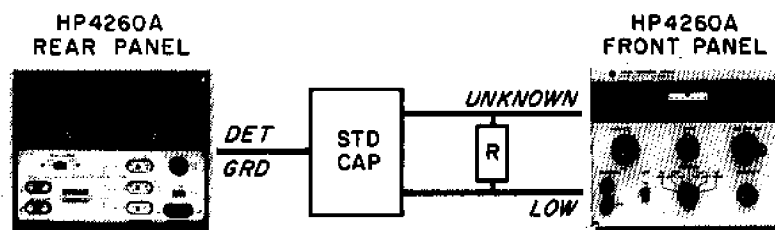

Figure 5-1. Capacitance and D Accuracy Check
- a. Connect equipment as shown in Figure 5-1.